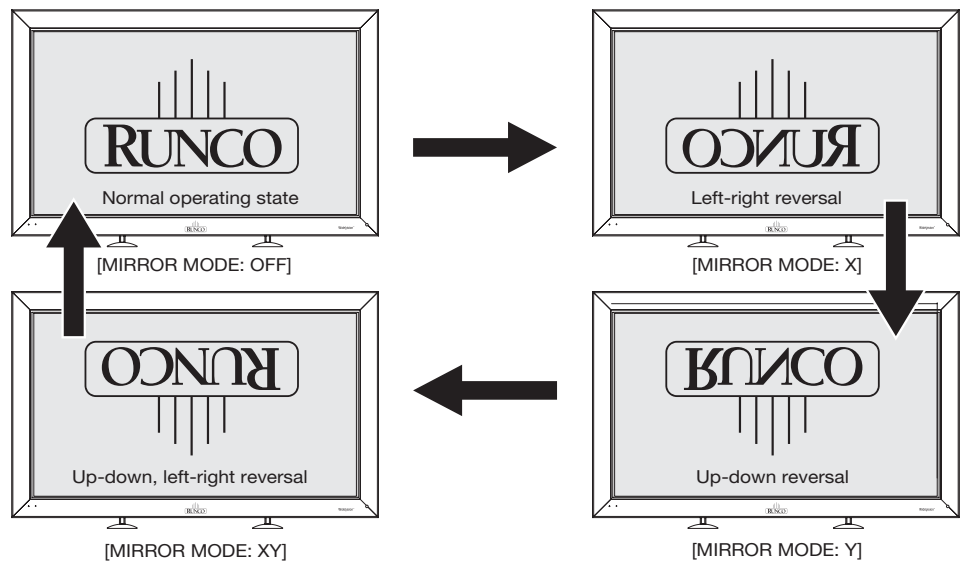

Figure 4-6. Mirror Mode
- Select **Mirror Mode** to change the displayed image orientation to suit the installation method; see Figure 4-6. For example, if the PlasmaWall is suspended from a ceiling, you may want to mount it upside down and run the cables upward (toward the ceiling) to make them less visible. In this case, you would use the “XY” mirror mode.